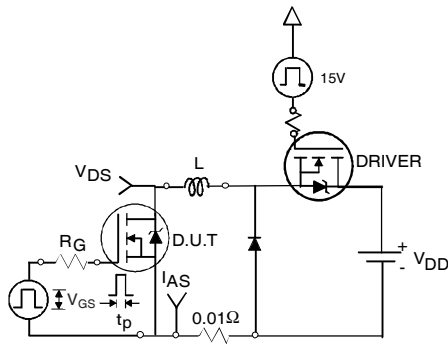

Fig 12a. Unclamped Inductive Test Circuit
- ③ $I_{SD} \leq 30A, di/dt \leq 280A/\mu s, V_{DD} \leq V_{(BR)DSS}, T_J \leq 175^\circ\text{C}$.
- ④ Pulse width $\leq 1.0ms$; duty cycle $\leq 2\%$.
- ⑤ $C_{oss \text{ eff.}}$ is a fixed capacitance that gives the same charging time as C_{oss} while V_{DS} is rising from 0 to 80% V_{DSS} .
- ⑥ Limited by T_{Jmax} , see Fig.12a, 12b, 15, 16 for typical repetitive avalanche performance.
- ⑦ This value determined from sample failure population, starting $T_J = 25^\circ\text{C}, L = 0.45mH, R_G = 25\Omega, I_{AS} = 30A, V_{GS} = 10V$.
- ⑧ When mounted on 1" square PCB (FR-4 or G-10 Material). For recommended footprint and soldering techniques refer to application note #AN-994.
- ⑨ R_θ is measured at T_J of approximately 90°C .
3. Equation below based on circuit and waveforms shown in Figures 12a, 12b.